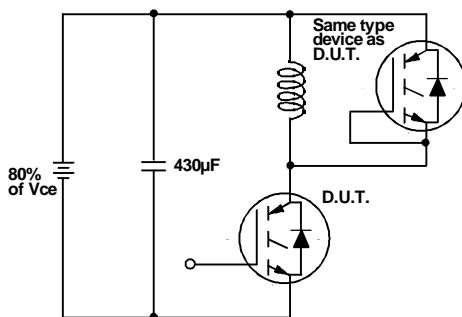

Fig. 18a - Test Circuit for Measurement of I_{LM} , E_{on} , $E_{off(diode)}$, t_{rr} , Q_{rr} , I_{rr} , $t_d(on)$, t_r , $t_{d(off)}$, t_f
- Fig. 18e - Macro Waveforms for Test Circuit of Fig. 18a